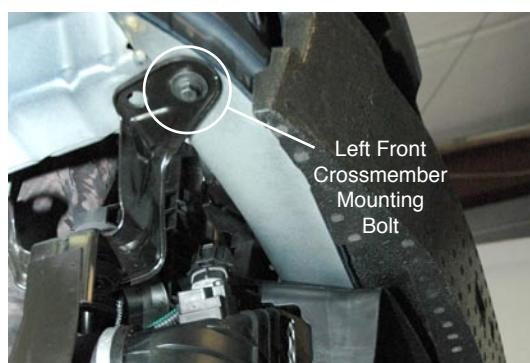

Figure 3.5
Your new intercooler will be mounted using the front two (2) bolts securing the radiator lower crossmember (See Figs. 3.5 and 3.6).
- Locate and remove indicated fasteners (see Figs. 3.5 and 3.6).